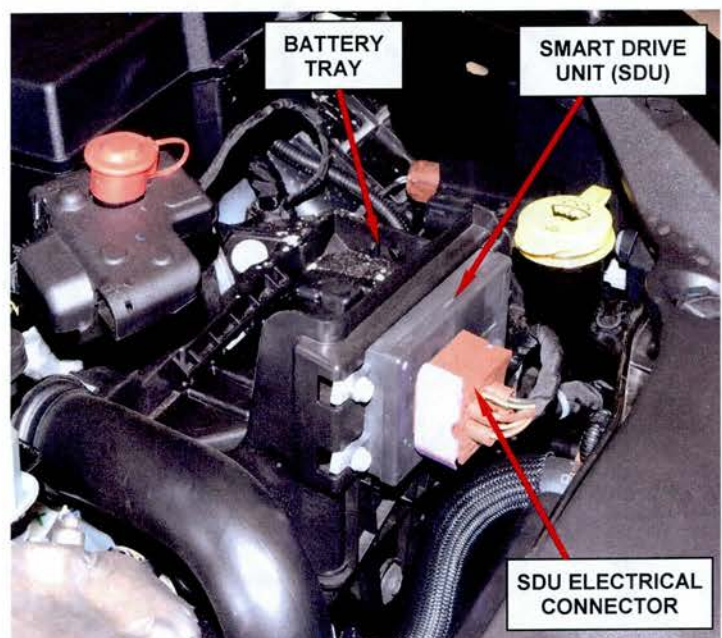

Figure 2 – Smart Drive Unit Electrical Connector
4. Disconnect the brown electrical connect to the transaxle Smart Drive Unit (SDU) (Figure 2).